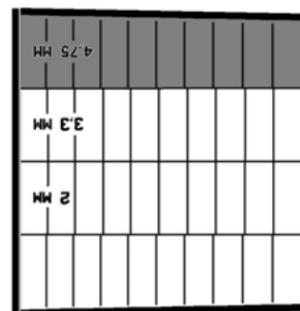

Figure 6.6 - Ex. preparation of results
- Place the grain sizer in its normal position and read the results in the different compartments (Figure 6.6);
- The results obtained (Figure 6.6) show a grain size of **0-70-30-0**;